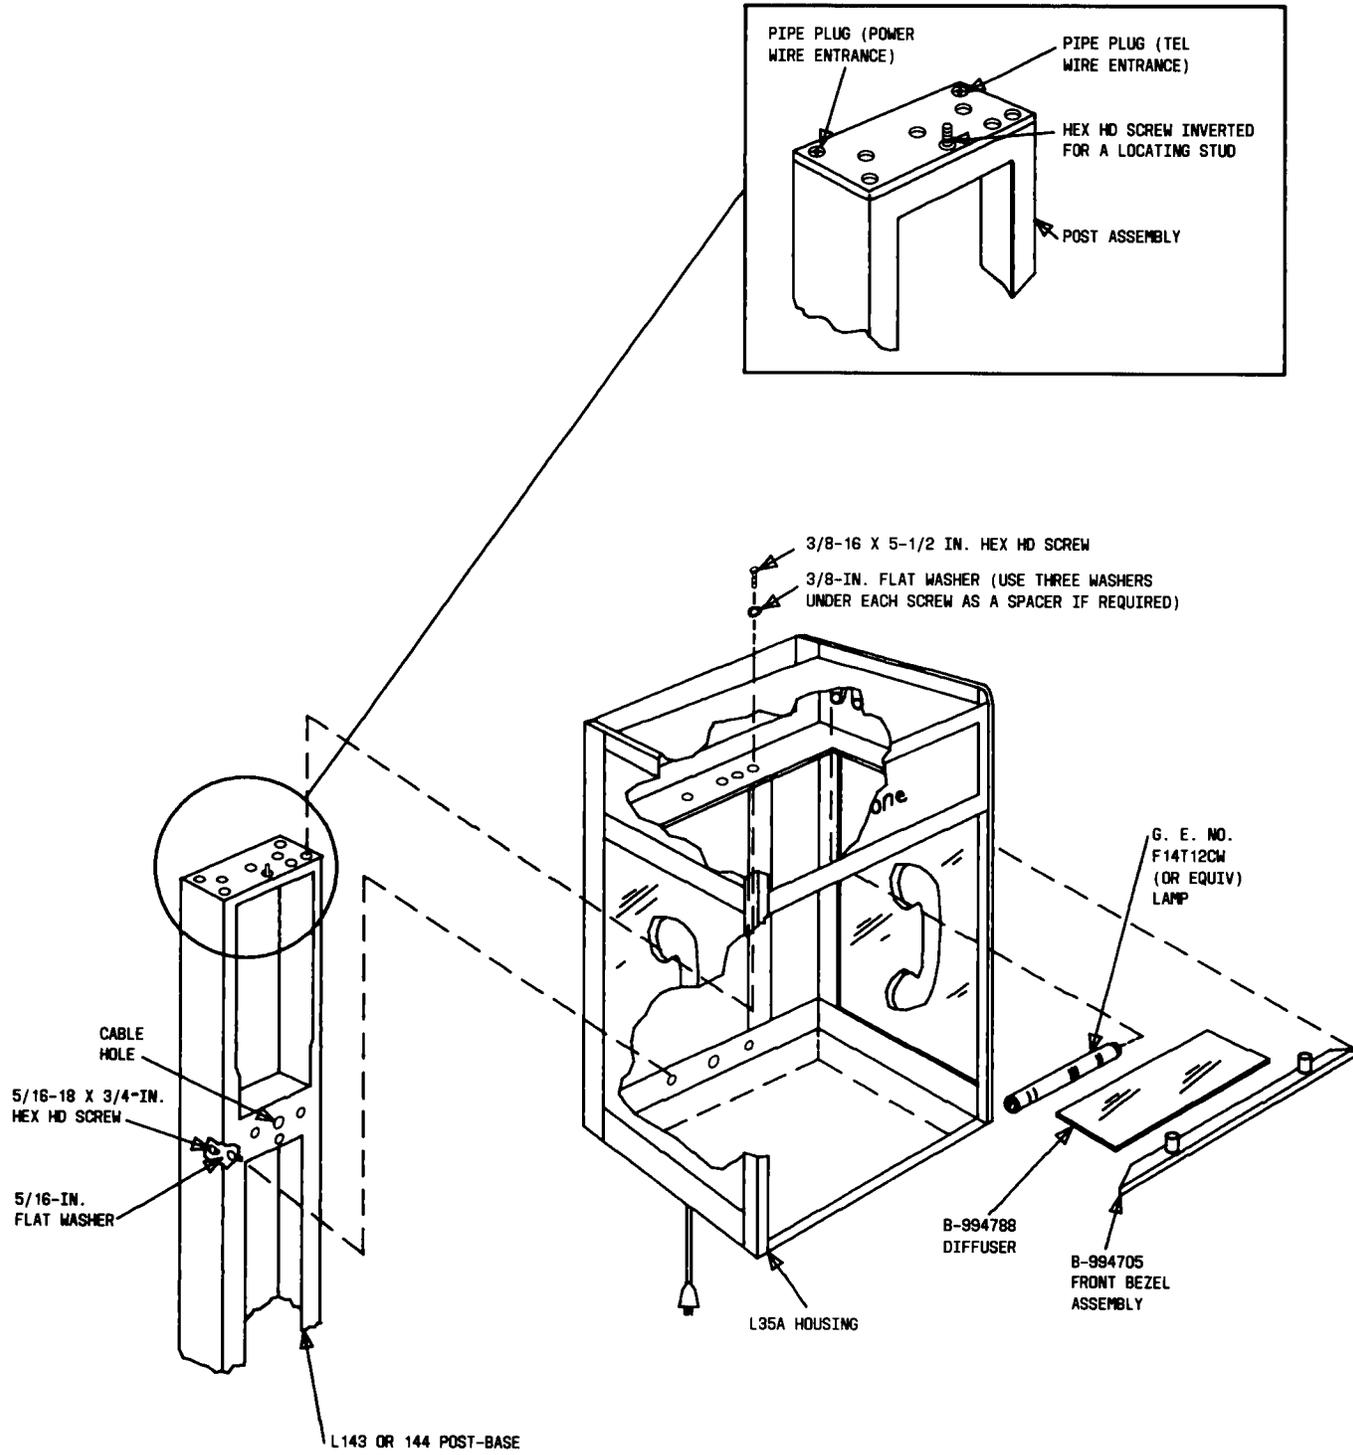

Fig. 34—Installation of List 35A Housing on List 143 or 144 Post-Base
3.31 **List 35A Housing Assembly with List 143 or 144 Post-Base (Fig. 34).**
(a) Using a KS-19192, List 1 wrench, loosen two fasteners and remove the front bezel assembly (Fig. 34).
(e) Remove the center-front hex head screw and flat washer from top of post. Invert screw, and install it back in the same hole from the opposite side for use as a locating stud (Fig. 34).
- (b) Using a KS-19192, List 1 wrench, loosen two fasteners and remove the front bezel assembly (Fig. 34).
- (b) Using a KS-19192, List 1 wrench, loosen two fasteners and remove the front bezel assembly (Fig. 34) first housing.